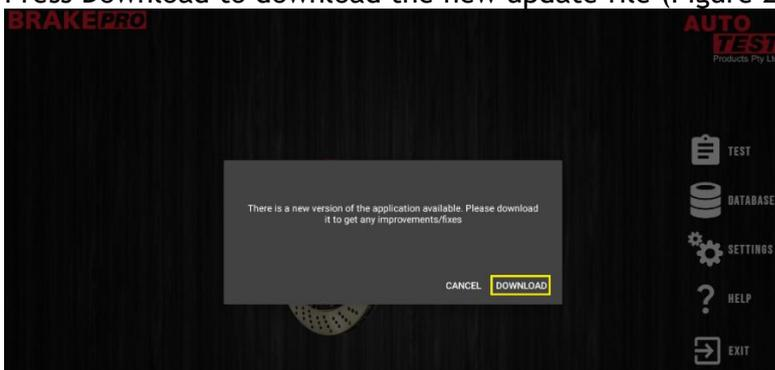

Figure 24
1. Press **Download** to download the new update file (Figure 24).